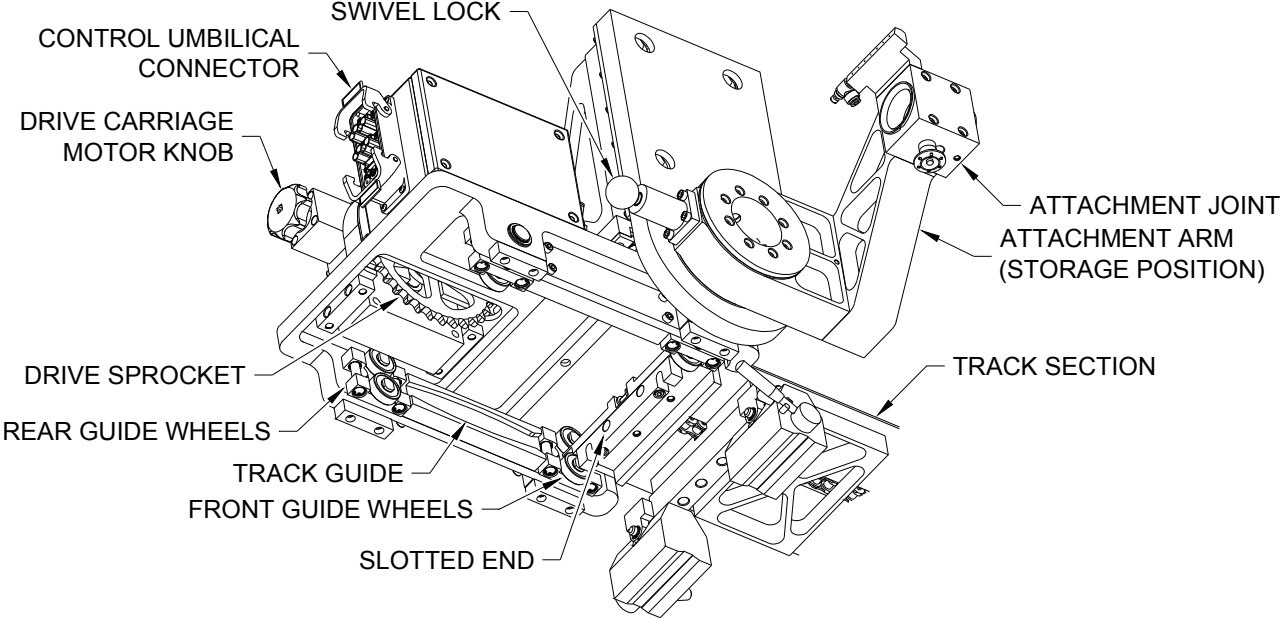

Figure 5: Drive Carriage installation
1. With the track fully assembled, two operators lift the Drive Carriage (approx. 100 pounds, 45 kg) into position, sliding the Front Guide Wheels onto the open Slotted End, see Figure 5. The Track Guides located on both sides under the Drive Carriage align the Rear Guide Wheels to the track.
5. The operator should verify that the Attachment Arm is in the orientation shown in Figure 5 by pulling the Swivel Lock and rotating the Attachment Arm. This is the Storage position.
4. The Attachment Arm must be in the Storage position, as shown in Figure 5.
4. The Attachment Arm must be in the Storage position as shown in Figure 5.